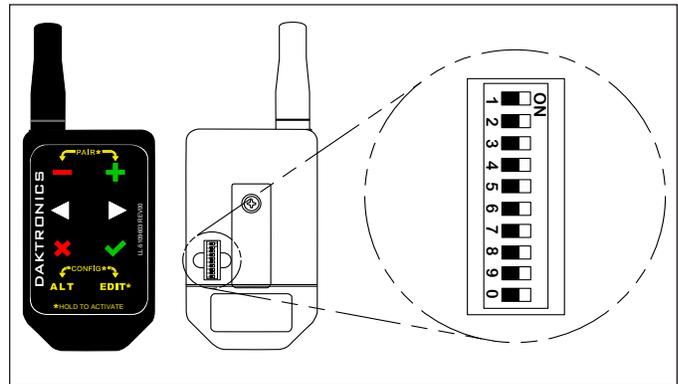

Figure 3: FLR5 Key Fob
1. Remove the small cover on the back of the FLR5-400 key fob. Refer to **Figure 3**.